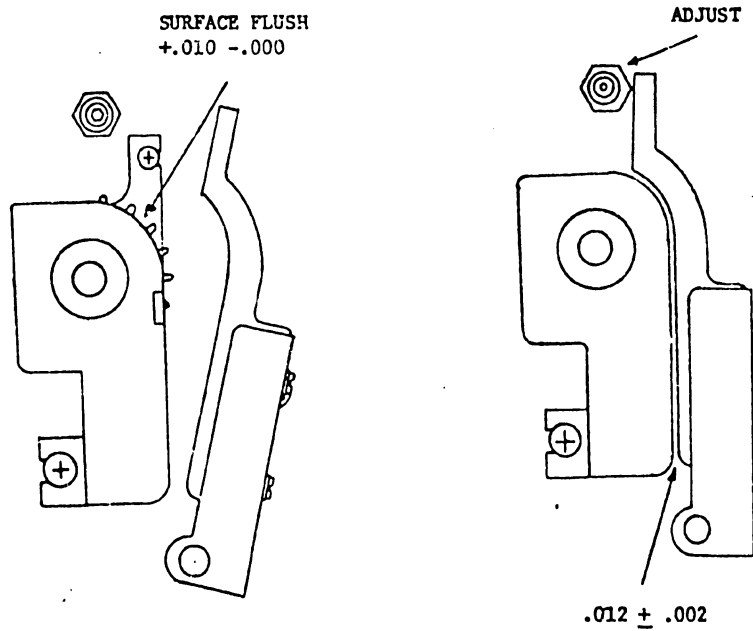

FIGURE 5-22 VERTICAL FORMAT HOUSING ADJUSTMENTS
- 1) The sprocket and housing are separate parts; hence with cover open, loosen the two screws holding the housing (Figure 5-22). Move the housing so that the base of the sprocket is flush with the housing.
- 2) Adjust cover stop eccentric to set a gap of  $.012" \pm .002"$  ( $.31 \text{ mm} \pm .06 \text{ mm}$ ) between the cover and housing (Figure 5-22).